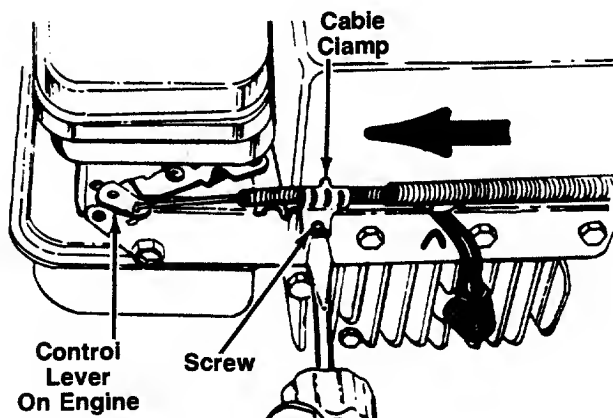

FIGURE 8.
1. Loosen (do not remove) the screw on the cable clamp so that the cable will move freely under the clamp. See figure 8.